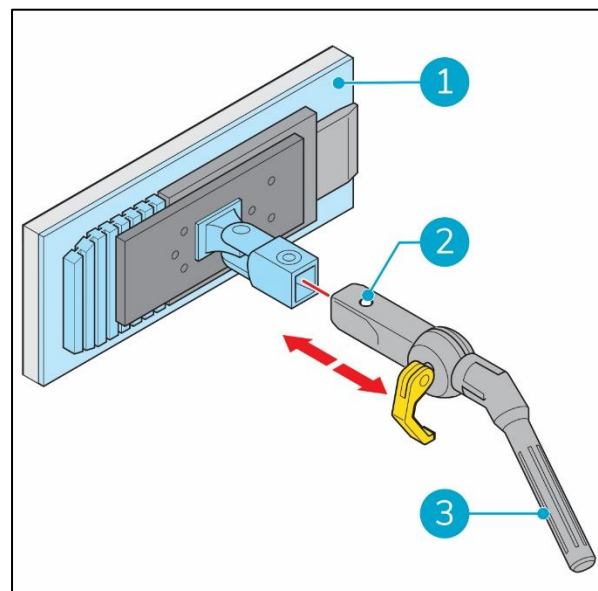

Figure 8
1. Push the ball button (Figure 8, pos 2) to release the pad from the gooseneck.
2. Remove the pad (Figure 8, pos 1) from the gooseneck (Figure 8, pos 3).